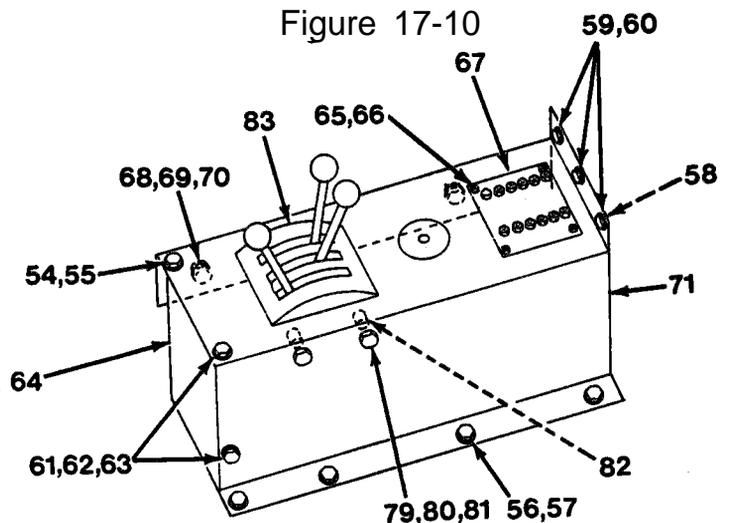

Figure 17-8
24. Install shifter (83) in right hand dash (71) with four spacers (82), washers (81), lockwashers (80) and capscrews (79, Figure 17-8).
25. Position right-hand dash (71) in cab to allow access to shift control linkage.